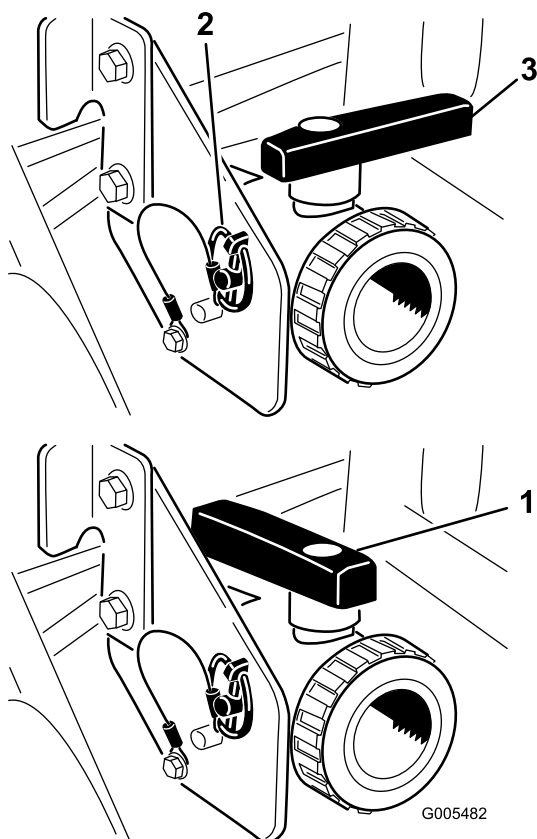

Figure 26
Open the valve to drain any unused material from the tank and dispose of it according to local codes and the material manufacturer's instructions (Figure 26). After draining, remove the lynch pin on the bracket securing the drain valve to the machine and let the valve rest on the ground. This allows any residual material in the line to drain.
3. When the tank has drained completely, install the valve to frame with the lynch pin removed previously and close the drain valve (Figure 26).